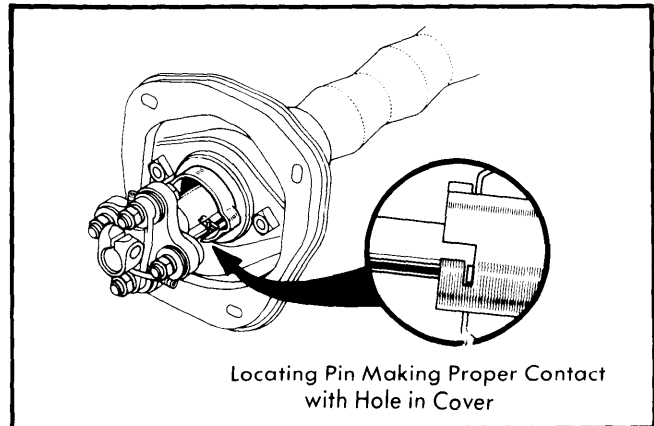

Fig. 3 Proper Installation of Steering Column
**Installation** - Working from inside passenger compartment, insert steering column assembly through column hole in firewall. Align index marks made during removal and tighten pinch bolt. Fit break-away bracket, but leave bolts finger tight. Position column hole cover in place with a new "O" ring seal. Push in column tube until fully seated, then tighten nuts mounting break-away bracket. Make sure hole cover locating pin contacts cover as shown in Fig. 3.